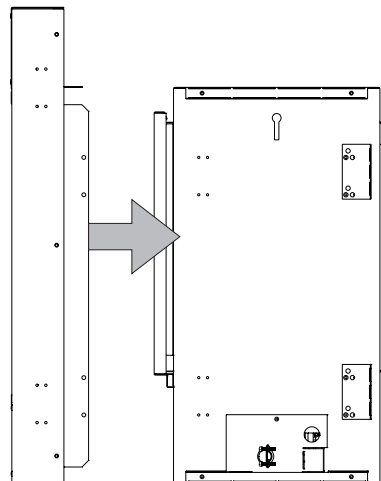

Figure 21
- 3c. Slide the outer glass and frame over the top and sides of the fireplace. See **Figure 21**.